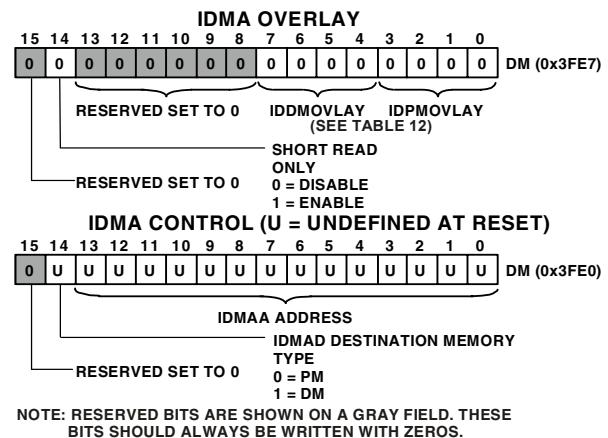

Figure 14. IDMA OVLAY/Control Registers
Through the IDMAA register, the DSP can also specify the starting address and data format for DMA operation. Asserting the IDMA port select (IS) and address latch enable (IAL) directs the ADSP-218xN to write the address onto the IAD14-0 bus into the IDMA Control Register (Figure 14). If Bit 15 is set to 0, IDMA latches the address. If Bit 15 is set to 1, IDMA latches into the OVLAY register. This register, also shown in Figure 14, is memory-mapped at address DM (0x3FE0). Note that the latched address (IDMAA) cannot be read back by the host.